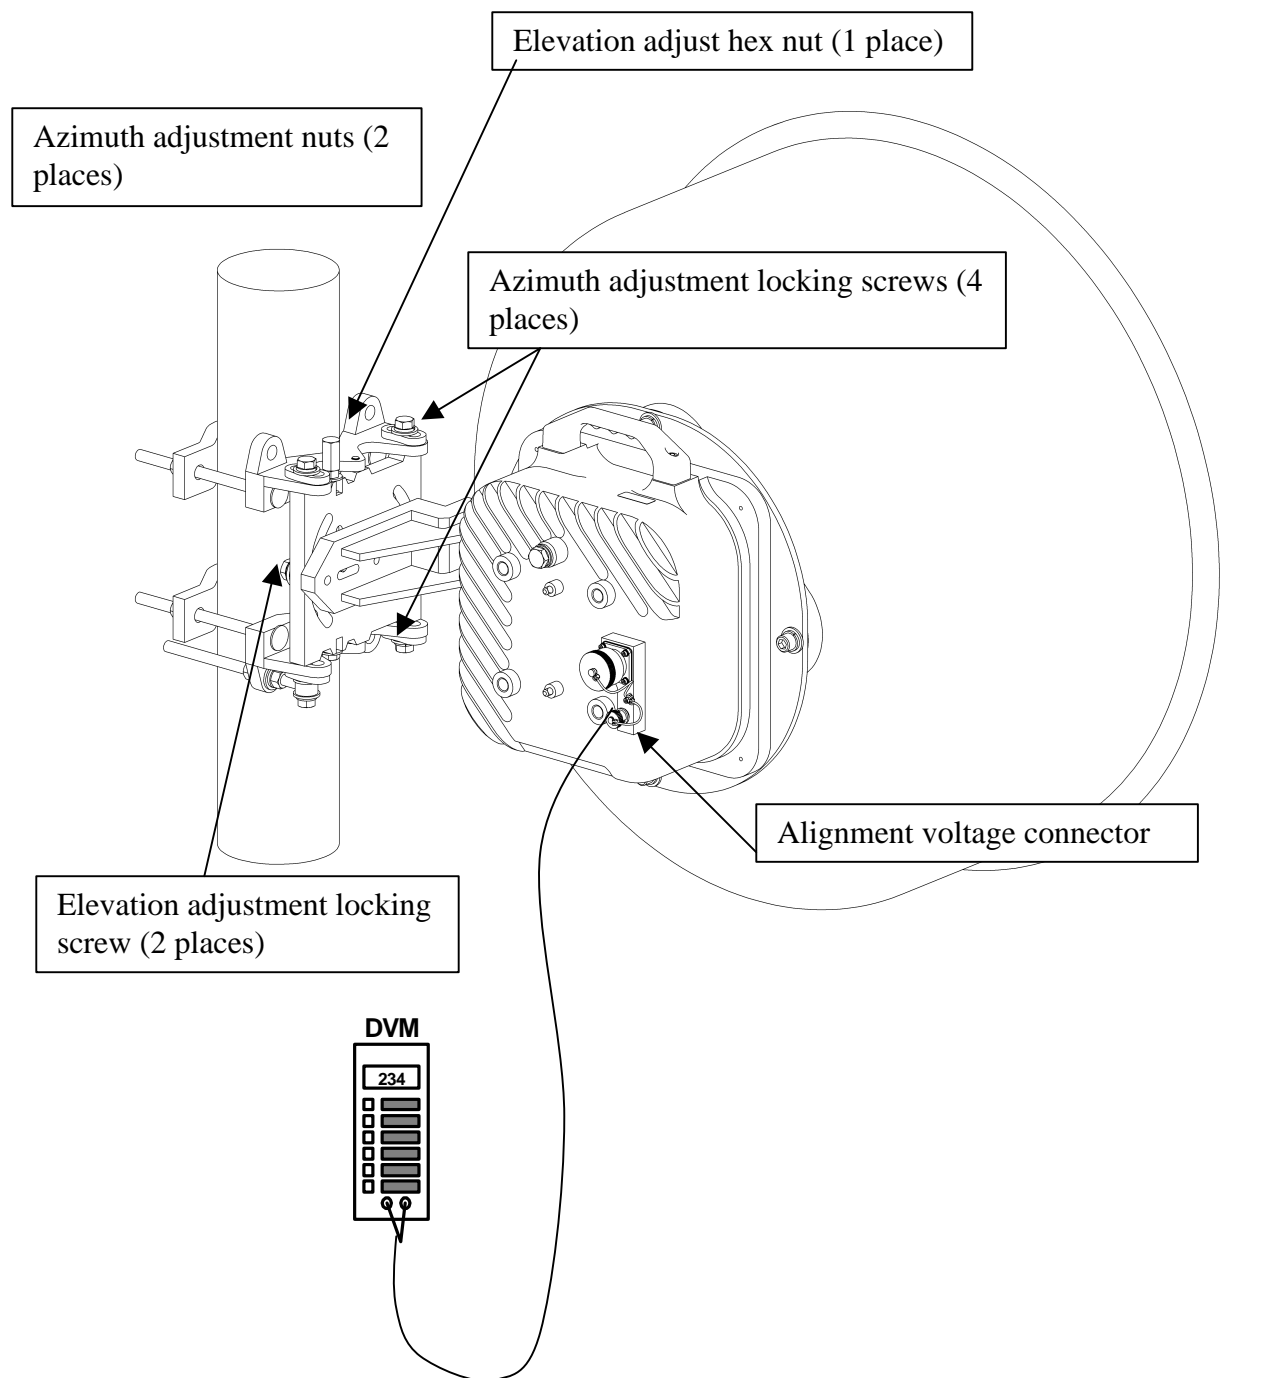
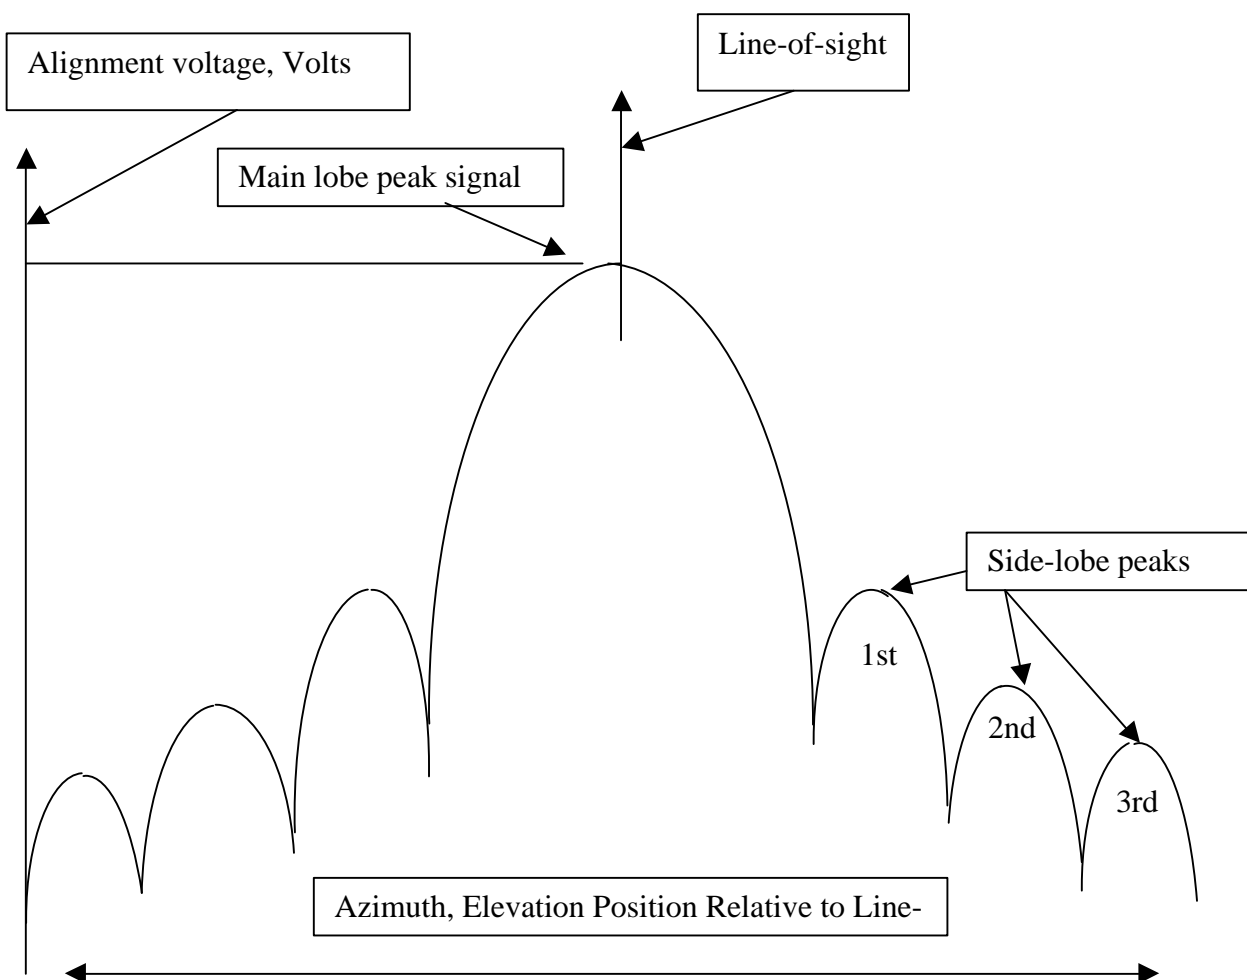

Figure 11. Final Line-of-Sight Adjustment and Signal Optimization for Link #1 (Access Unit 1 on A and B ends of Link)
Figure 12. Peak Signal
- 6.7.1. Connect a dc voltmeter to the BNC connector on the rear of the Access Unit using a BNC-to-test lead adapter as shown in Figure 11. If the peak alignment of the two Access Units is sufficiently close, the voltmeter should give a typical alignment voltage as shown in the **Alignment Voltage Chart** supplied with each unit. This chart will provide an alignment voltage for some typical installed link ranges. Visually adjust alignment if necessary.
- 6.7.2. Using the Azimuth Adjustment Nuts (see Figure 11), adjust the azimuth until the reading on the voltmeter is at a maximum. It is advised that, in order to ensure the true maximum, you should adjust through the maximum (peak voltage) until the voltage clearly drops and continues to drop to lower level side-lobes. Adjust back until the maximum is again attained (see Figure 12).
- 6.7.3. Using the Elevation Adjustment Screw (see Figure 11), adjust the elevation until the reading on the voltmeter is at a maximum. It is advised that, in order to ensure the true maximum, you should adjust through the maximum (peak voltage) until the voltage clearly drops and continues to drop to lower level side-lobes. Adjust back until the maximum is again attained (see Figure 12).